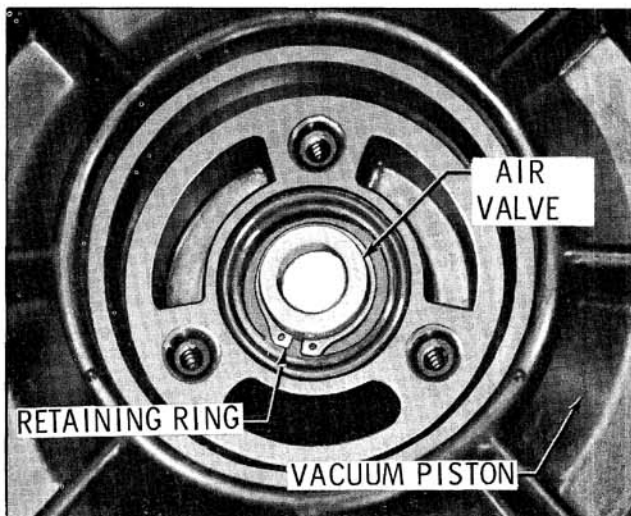

Fig. 11-62 Retaining Ring Location
18. Depress operating rod and remove the retaining ring from the air valve. (Fig. 11-62)
the air valve with lubricant and install the operating rod assembly into the vacuum piston. Install the retaining ring. (Fig. 11-62)